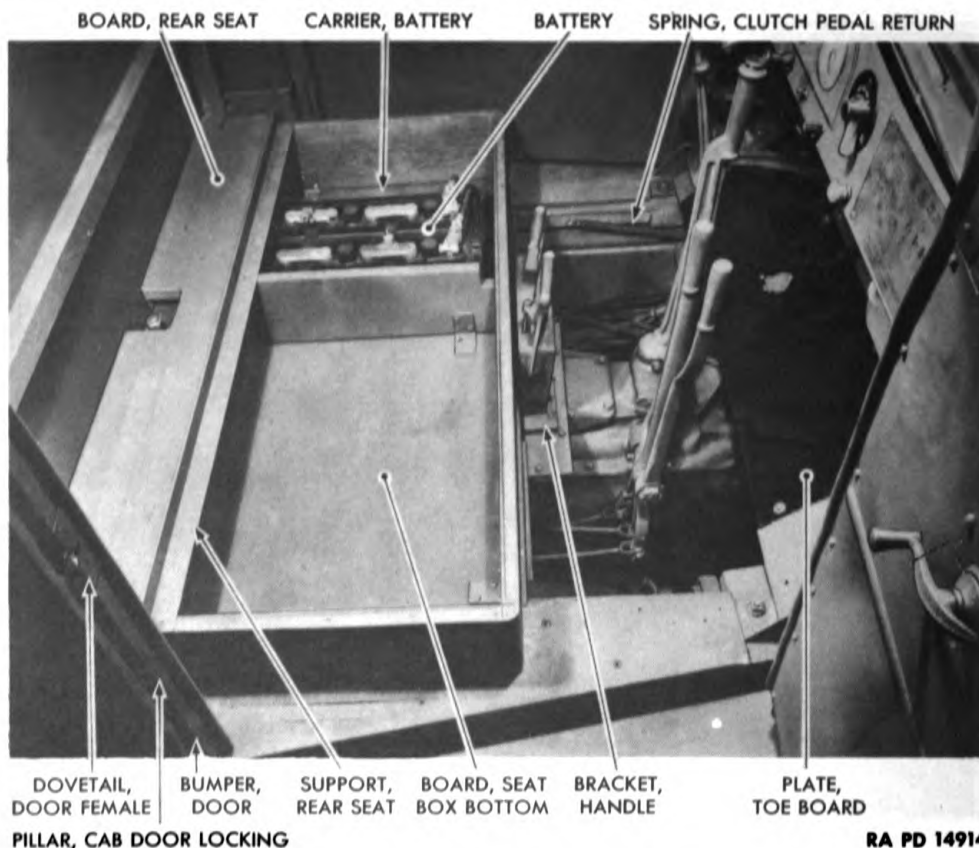

Figure 107—Seat and Floor Boards
- (d) Unhook clutch pedal return spring (pliers) (fig. 107).
(b) Remove four floor board screws. Lift back of floor board up and pull it out from under toeboard plate (fig. 107). Remove floor board.
(a) Remove four rear seat board screws. Lift off rear seat board (fig. 107). Remove three rear seat support screws (screwdriver, Phillips). Lift off rear seat support (fig. 107).
(b) Remove the four battery carrier nuts and lock washers (3/4-in socket wrench). Lift off battery carrier (fig. 107).
(c) Lift off seat box bottom board (fig. 107).
(a) Remove screws which hold door lock striker to cab door locking pillar (fig. 107). Lift off door lock striker and repeat procedure on opposite side of cab.
(a) Pry two door bumpers out of cab door locking pillar (fig. 107). Repeat procedure on opposite side of cab.